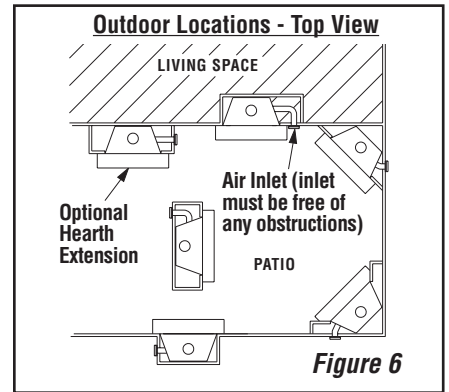

Figure 6
Outdoors: These appliances are approved for installation against an outside wall of a house, or as a freestanding fireplace on the porch, patio, or located in the yard (see **Figure 6**). The Outdoor Fireplace must be enclosed to prevent impact damage to the outside of the fireplace. Build an outside enclosure out of standard building materials, being careful to maintain the minimum air clearances specified in these Installation Instructions. When installing the fireplace as a freestanding unit on your porch, patio or backyard, it must also be enclosed to prevent impact damage to the fireplace. However, the enclosure must now be finished on all four (4) sides. The exterior of the enclosure may be finished in a textured plywood, a wood clapboard siding, brick, or a cultured stone.